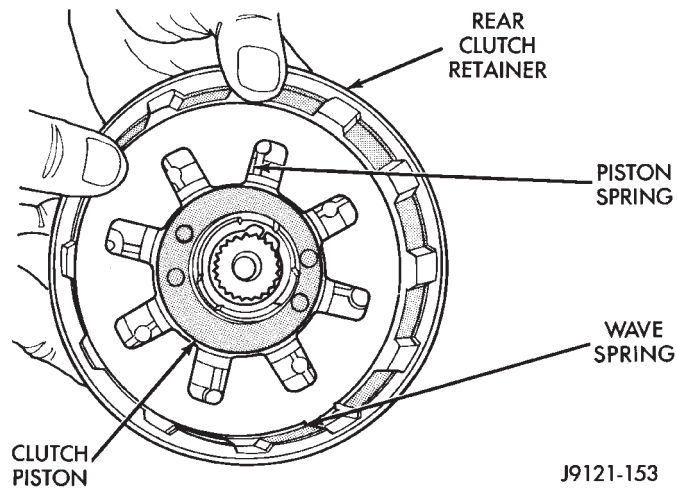

Fig. 145 Piston Spring/Wave Spring Position
(9) Install piston spring in retainer and on top of piston (Fig. 145). Concave side of spring faces downward (toward piston).
(10) Install wave spring in retainer (Fig. 145). Be sure spring is completely seated in retainer groove.